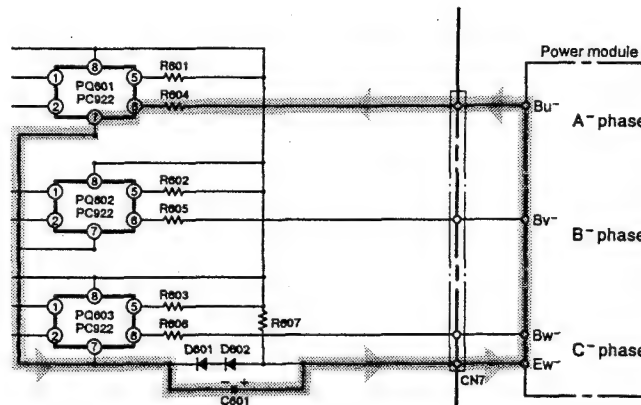

Fig. 7-5
- When pin ③⑤ of the micro computer goes "Hi" → "Lo", a photocoupler between PQ601 pins ① and ② turn off and reverse bias current flows to C601 → power module's Ew- terminals → Bu- terminals → R604 → PQ601 to cut off the lower arm transistors. (Fig. 7-5)
- When the peak current cut off function operates, HIC-1 ③⑩ pins become 0V, PQ501-PQ503 and PQ601-PQ603 turn off and the upper/lower arm drive circuits stop.
- When a reset signal is applied, HIC pins ⑦ and ③② become open, PQ501-PQ503 and PQ601-PQ603 turn off and the upper/lower arm drive circuits stop.